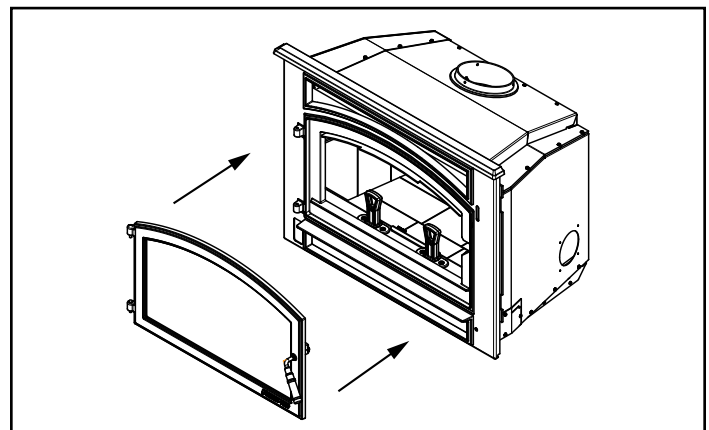

Figure 5.11
6. Reinstall door to face of appliance (Figure 5.11).
9. Reinstall the door to the face of the appliance (**Figure 5.11**).